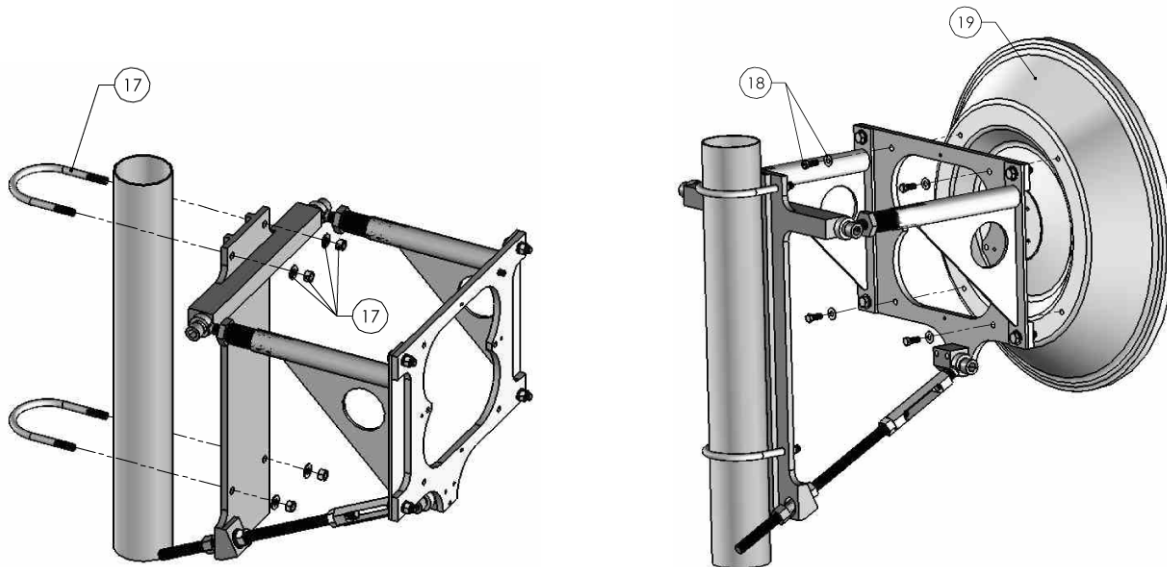

Figure 6. Attaching Assembly to Mast and Attach Antenna.
2.5 Attach Assembly to Mast and Attach Antenna (see Figure 6)